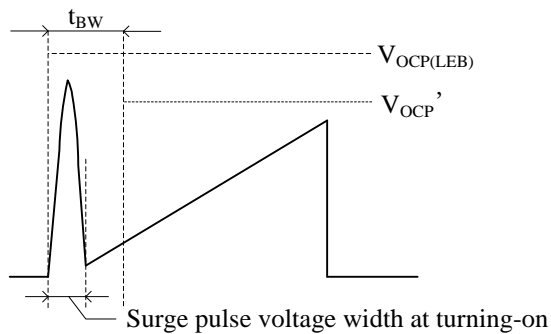
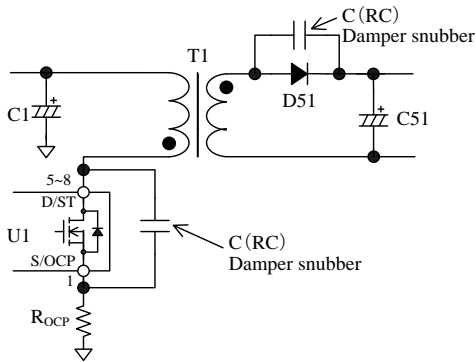

Figure 10-12. S/OCP Pin Voltage
Figure 10-13. Damper Snubber
in Figure 10-12. Changing to this threshold voltage prevents the IC from responding to the surge voltage in turning-on the power MOSFET. This function operates as protection at the condition such as output windings shorted or unusual withstand voltage of secondary-side rectifier diodes.
When the power MOSFET turns on, the surge voltage width of the S/OCP pin should be less than  $t_{BW}$ , as shown in Figure 10-12. In order to prevent surge voltage, pay extra attention to  $R_{OCP}$  trace layout (see Section 11.2). In addition, if a C (RC) damper snubber of Figure 10-13 is used, reduce the capacitor value of damper snubber.